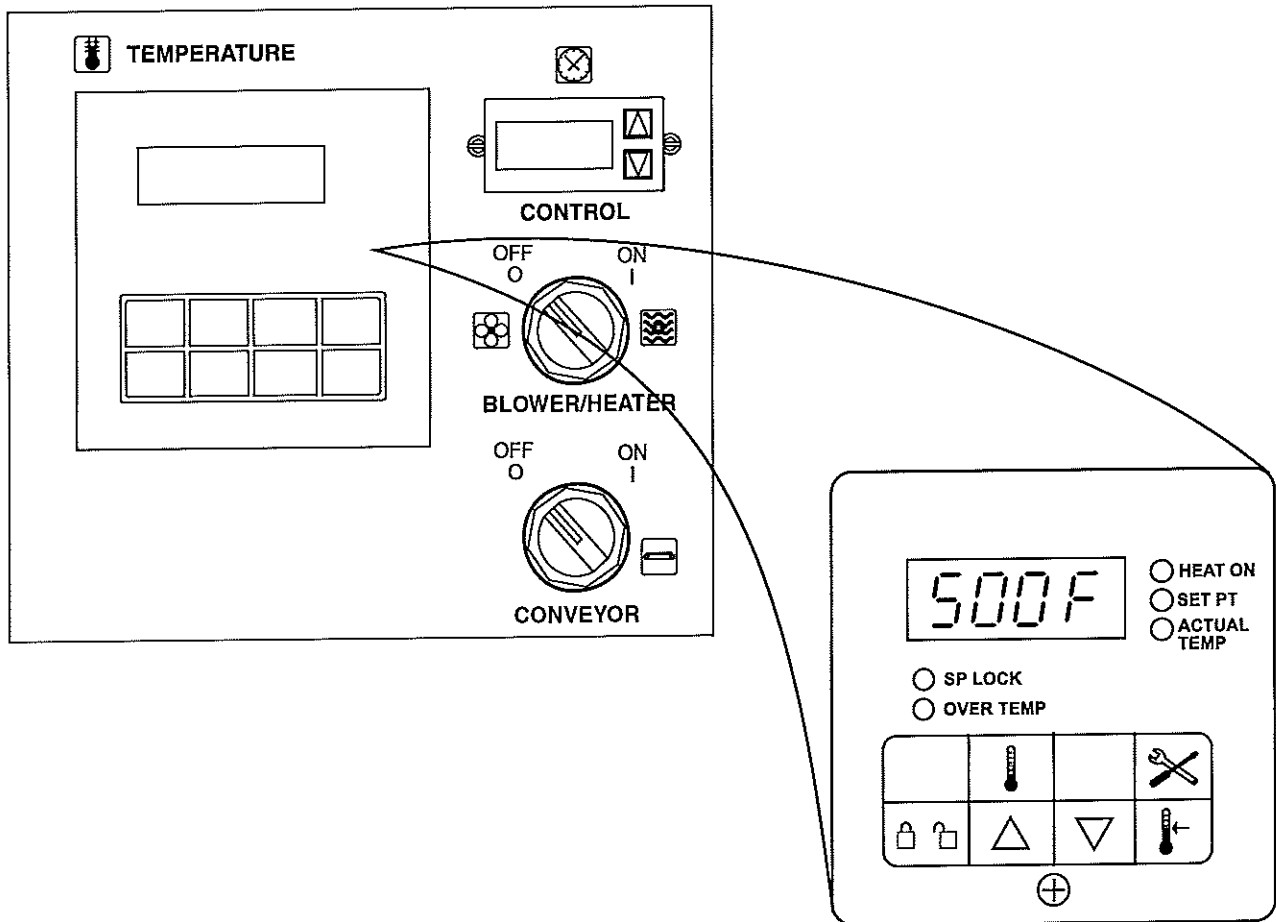

Figure 3-6. Control Panel
1. Turn the BLOWER/HEATER switch (Figure 3-6) to the "ON" or "I" position. This starts the main blower fan and the cooling fans. The blower circulates air through the air fingers and must stay on during the cooking or baking process.
2. Check to see if the cooling fans (see Figure 1-8) are operating when the blower switch (see Figure 3-6) is turned "ON" or "I". The cooling fans cool the control components and blower motor. The cooling fans, located at the rear of the oven blows air into and through the cabinet. Air is exhausted through the front of the cabinet and also out the front of the oven. Refer to Daily Maintenance Section for fan intake checking procedure.
3. Turn the CONVEYOR switch (Figure 3-6) to the "ON" or "I" position, after the Temperature Control displays the current temperature. This starts the conveyor belt moving through the oven. Set the conveyor speed for the desired baking time. Refer to the following Procedures E, F and G.